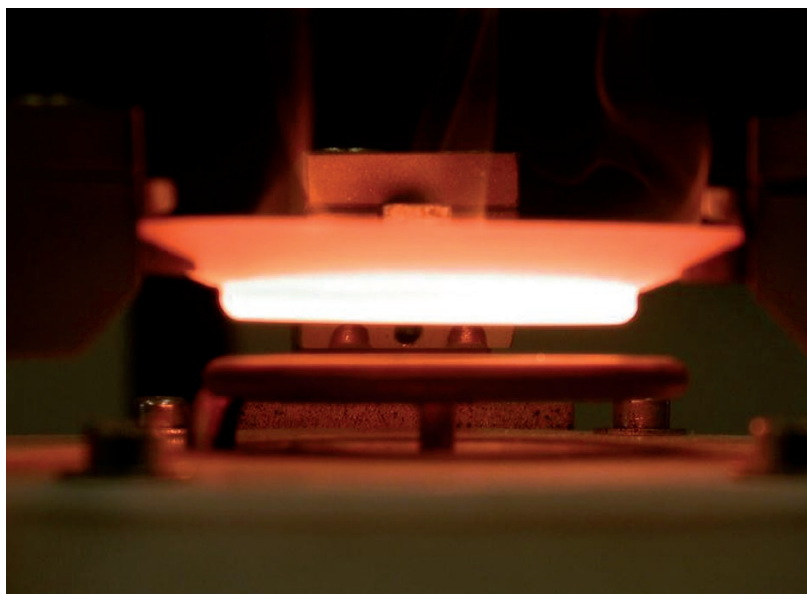

Fig. 1: High frequency fusion fluxer for the preparation of fused glass beads.
- Precision is the variance of the final result and is affected by analytical equipment, sample preparation and sampling. Because of their high quality and stability the *analytical equipment* used has a small contribution to the overall variance of the final result. Adequate *sample preparation* is the next key factor for successful analysis. For example for XRF analysis the final result of sample preparation should be a flawless fused bead (with or without the use of a fluxing agent like borate). For the preparation of these fused beads we use a fully programmable high frequency fusion fluxer with accurate temperature control (Figure 1). The last prime factor for a good result is *sampling*. Although taking a representative sample can sometimes be laborious and may require a statistical approach, it should be stressed that having minimized all other sources of variance, sampling will determine the significance of the final result.